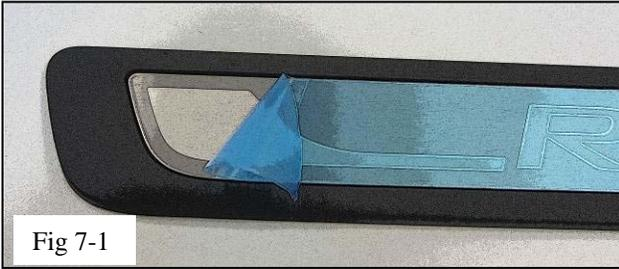

Fig 7-1
- b. Remove the blue protective liner off the top of the part (Fig. 7-1).